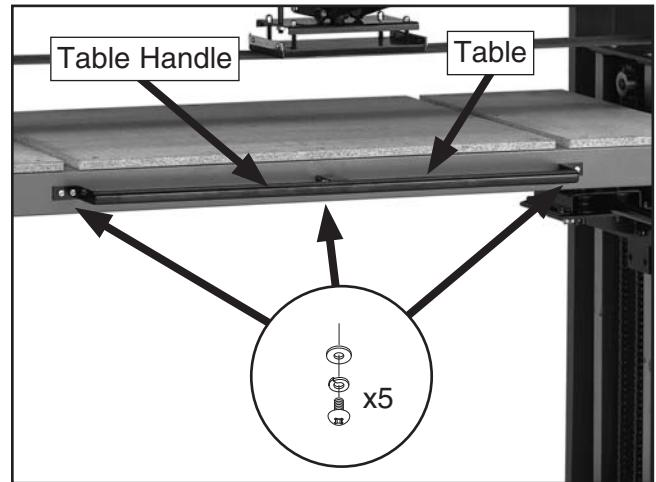

Figure 28. Attaching handle.
22. Attach the table handle to the table with (5) $\frac{1}{4}$ "-20 x $\frac{1}{2}$ " Phillips head screws, (5) $\frac{1}{4}$ " lock washers and (5) $\frac{1}{4}$ " flat washers (**Figure 28**).